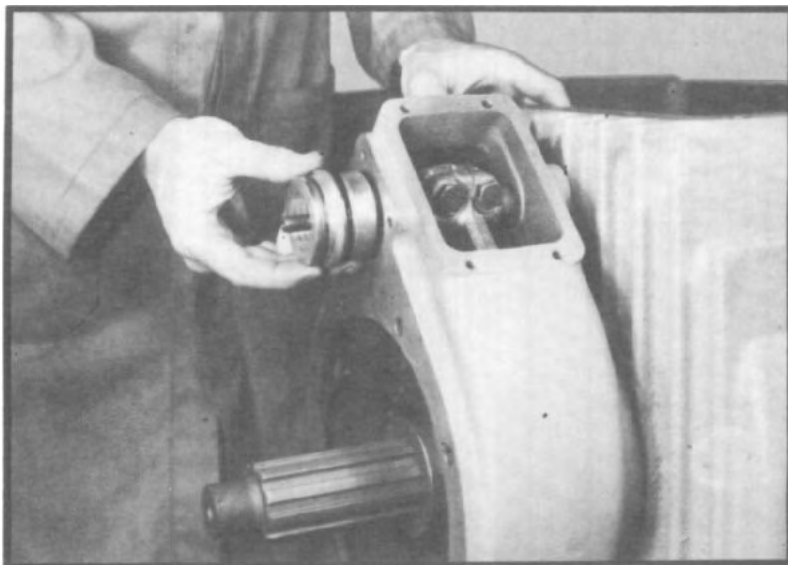

Fig. 165
6. Install o-rings in adapter tube and insert adapter tube into lock-out housing. (See fig. 165.)